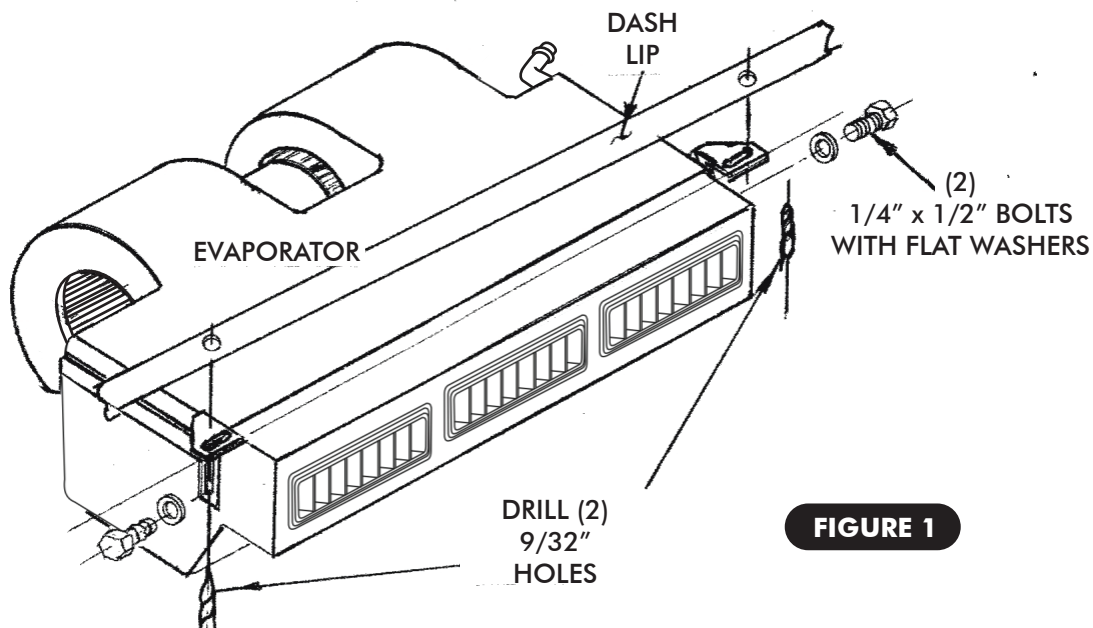

FIGURE 1
2. DRILL (2) 9/32" HOLES UNDER THE DASH LIP WITH EVAPORATOR BRACKETS ATTACHED TO EVAPORATOR AS SHOWN IN FIGURE 1, BELOW.